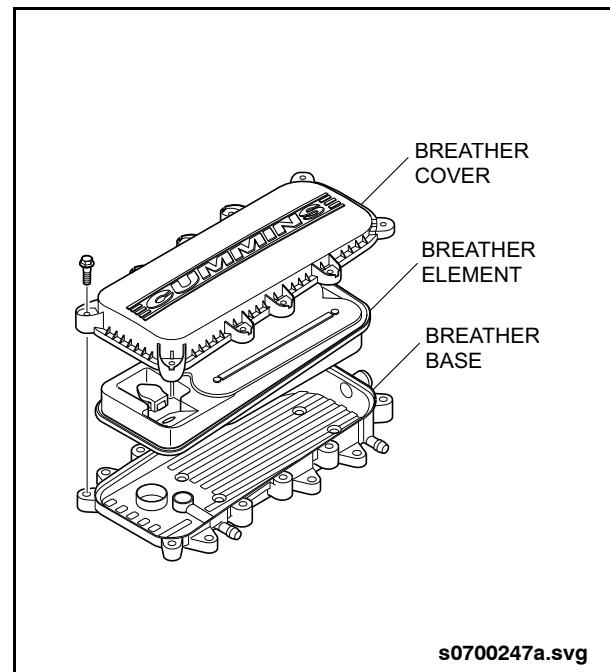

Fig. PM-41: Crankcase Breather
3. Remove the eleven bolts that attach the crankcase breather cover to the crankcase breather base. See "Fig. PM-41: Crankcase Breather" on page 84.